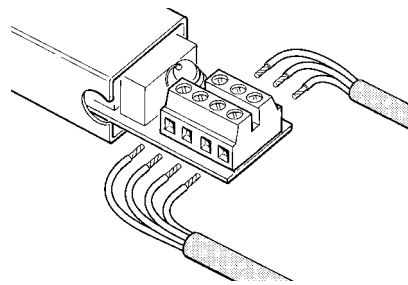
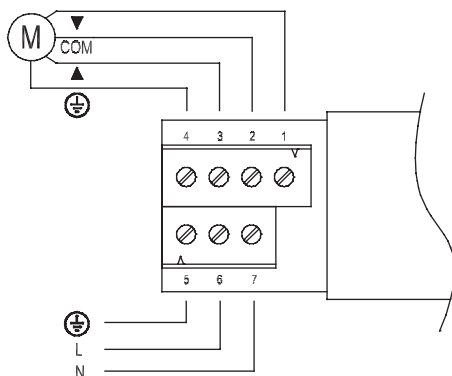

Fig. 8
Fig. 13
- 6 Connect the conductors to the terminals as shown in fig. 8, observing the diagram in fig. 13.
Use terminals 5-6-7 for the main power supply to the RC1 receiver (ground, phase, neutral), as shown in figure 13.
The single-phase asynchronous motor powered by the electrical mains must be connected to terminals 1-2-3-4 as shown in figure 13. No. 2 is the “Common” terminal; blue is normally used in the motor cable; no. 4 is the “earth” cable (yellow/green). Terminals 1 and 3 correspond to the “Descent” ▲ and “Ascent” ▼, respectively. they are usually brown and black in the motor cable.